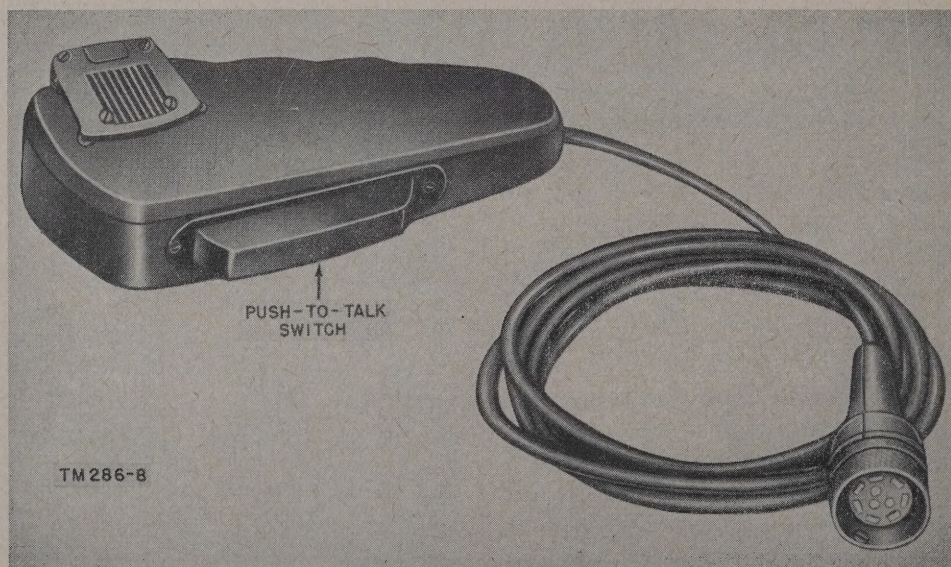

Figure 19. Microphone M-29/U.
f. *Microphone M-29/U*. Microphone M-29/U (fig. 19) consists of a 100-ohm carbon-microphone element in a plastic case with a push-to-talk